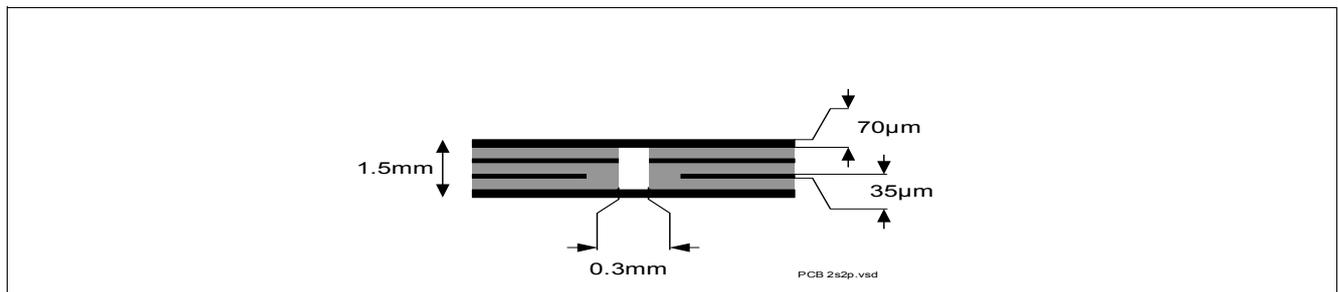

Figure 4 2s2p PCB Cross Section
- 2) Specified R_{thJA} value is according to JEDEC JESD51-2,-5,-7 at natural convection on FR4 2s2p board with 1 W power dissipation at $T_A=105^\circ\text{C}$. The product (chip + package) was simulated on a 76.4 x 114.3 x 1.5 mm board with 2 inner copper layers (2 x 70 μm Cu, 2 x 35 μm Cu). Where applicable, a thermal via array under the exposed pad contacts the first inner copper layer. Please refer to Figure 4.